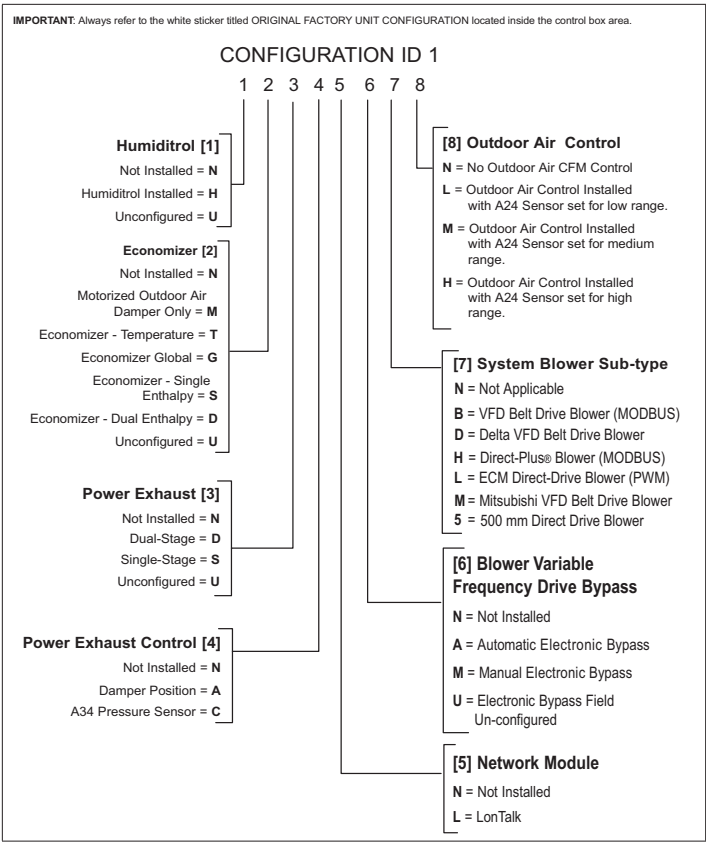
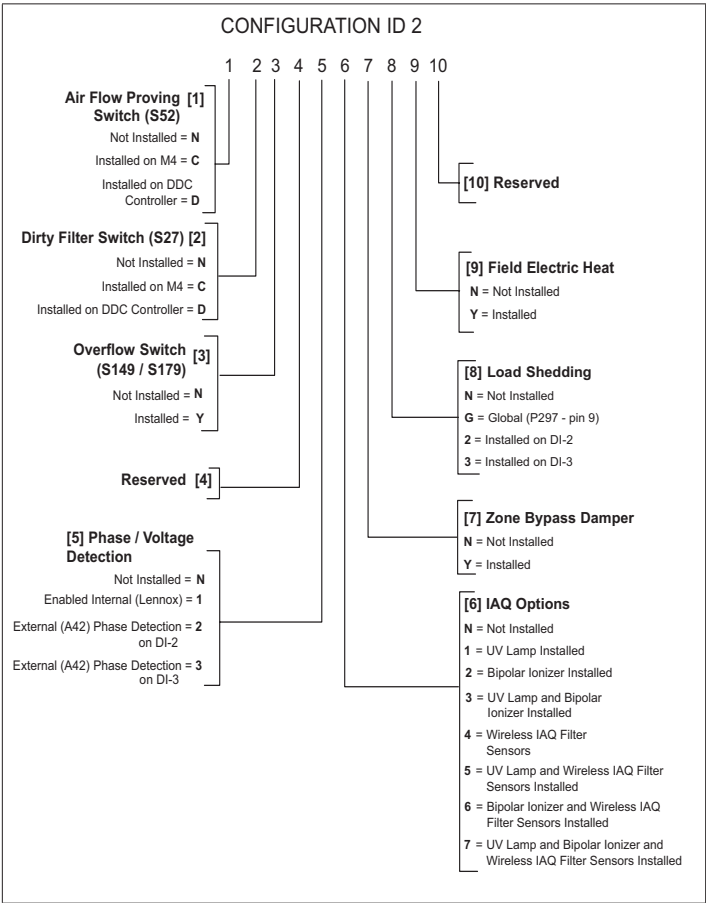

Figure 6. Configuration ID 1
Figure 7. Configuration ID 2
- RTU Information. Configuration ID 1 and 2 can be entered here. See “Figure 6. Configuration ID 1” on page 15 and “Figure 7. Configuration ID 2” on page 15 for further details.